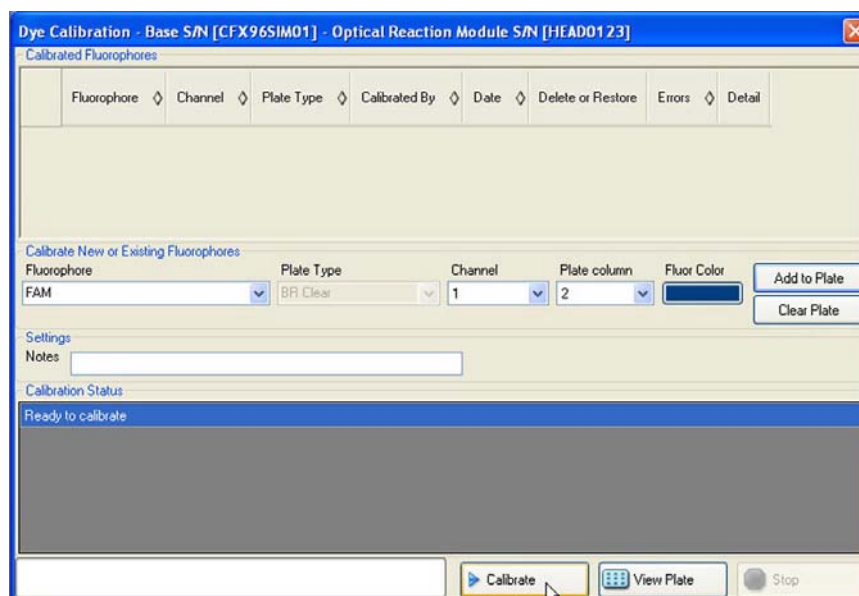

Figure 115. Dye Calibration window.
2. Select **Tool > Calibration Wizard** to open the window and calibrate new dye and plate combinations (Figure 115).
Figure 115 shows an example of the Dye Calibration window.